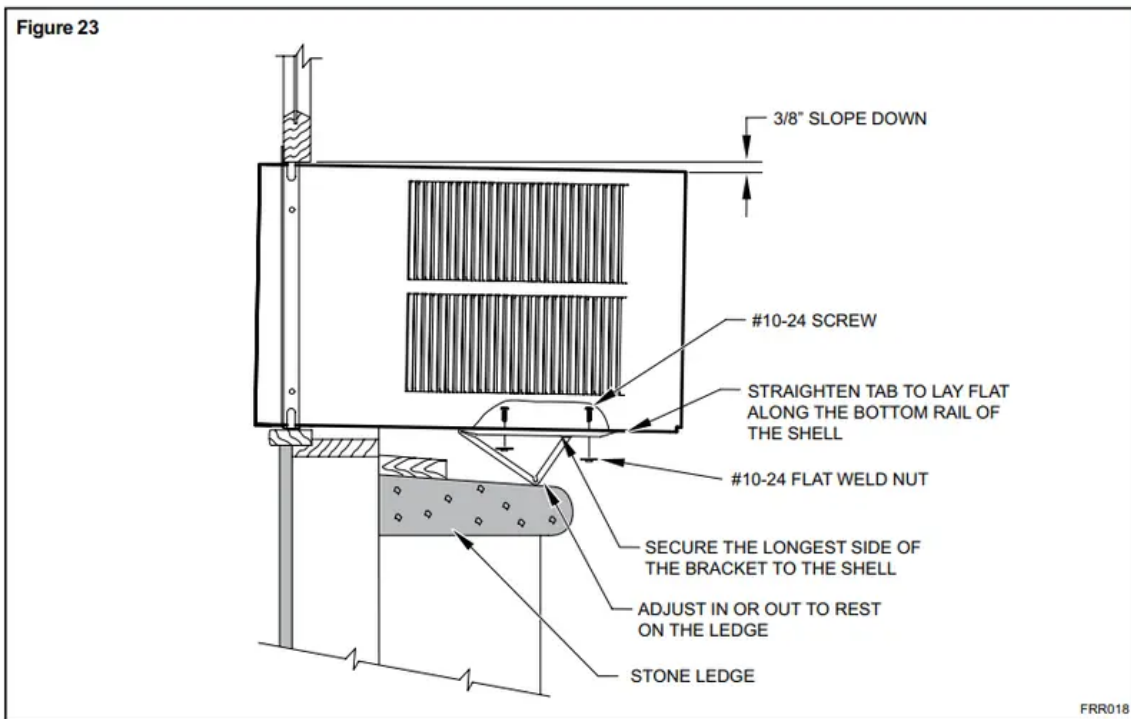

Figure 24
Alternate support method B: If the window ledge gap is narrow. try the following. Bend the bracket end tab flat. Cut the bracket in two (2) places as shown in Figure 24. Bend the short piece so it will be vertical when installed. Adjust the placement as required. Tighten all screws.